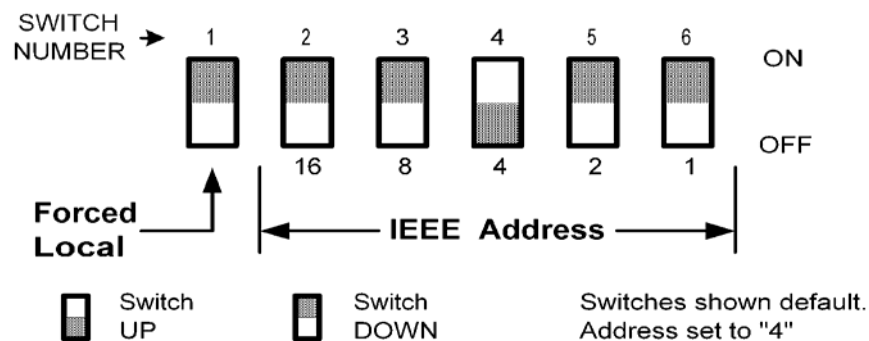

Figure 1. IEEE Address Switch Settings
- Before powering up the supply, set the IEEE address on its back panel switch. It is labeled “IEEE ADDRESS”. Each device on the IEEE bus must have a unique address. The controller is normally at address = 0 and address = 31 is reserved, so the available addresses are from 1 to 30. See Figure 1.
- Before powering up the supply, verify the FORCED LOCAL switch on IEEE address switch is downward for OFF. Setting this switch ON will disable remote programming over the IEEE and RS-232 busses. See Figure 1.